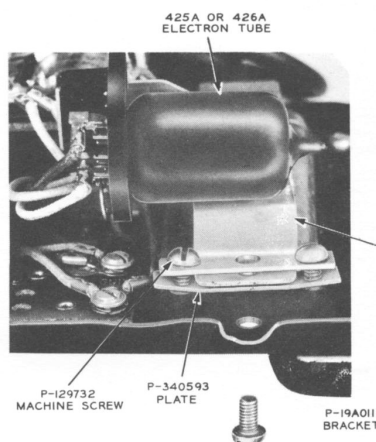

Fig. 8—Electron Tube and Bracket
8.01 The electron tube bracket for the 5306-type telephone set is installed as shown in Fig. 8.